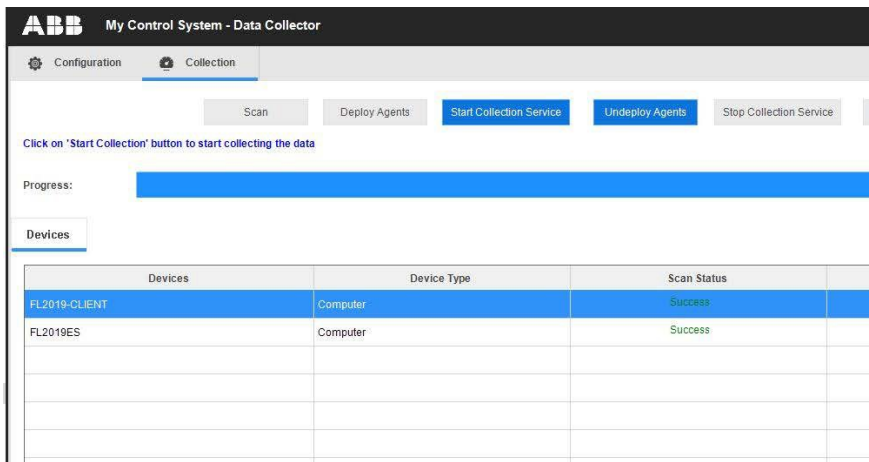

Figure 4.83: Start collection service
10. After deploying the data collection agents, **Start Collection Service** button enables. See Figure 4.83.